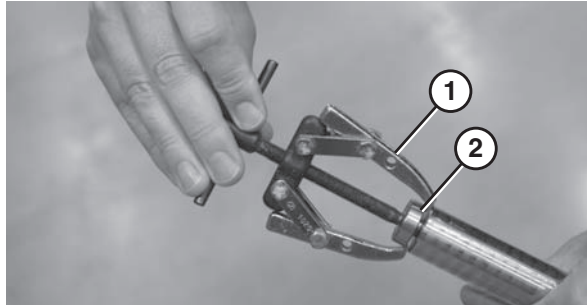

**Figure 46**
2. Twist the bearing out (**Figure 46, item 1**).